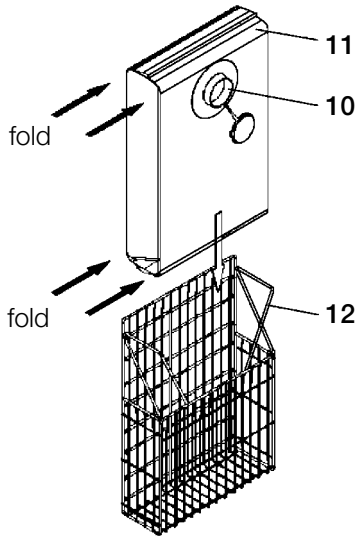

Fig. 5: Inserting the filter bag
1. Fold new filter bag (11) as shown in Fig. 5 and insert into basket as shown (12).